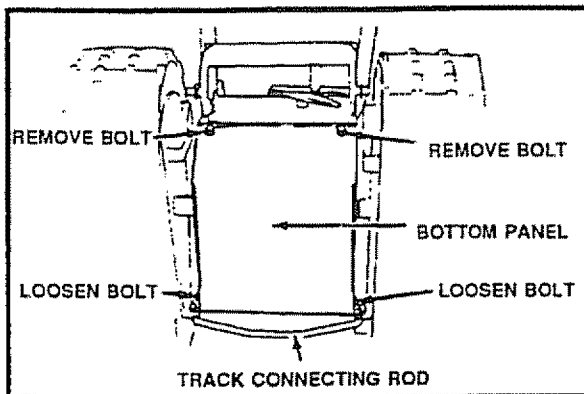

FIG. 32
- Remove the bottom panel (See Fig. 32)